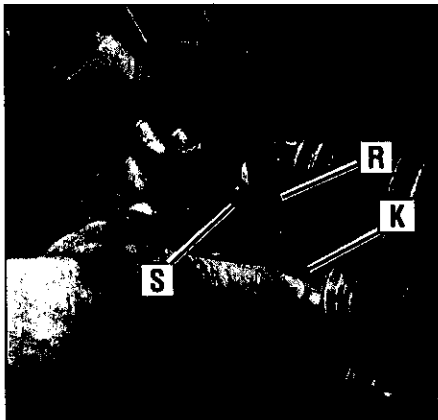

Figure 4-16: Installing clevis pin in inside hole of reverse adjustable link.
7. There are two holes in the reverse adjustable link (S, Figure 4-16). Push inward on the reverse idler arm (K) and install the clevis pin (R) through the inner hole in the reverse adjustable link (S) and out through the single hole in the reverse idler arm (K). Secure the clevis pin with the hairpin cotter.